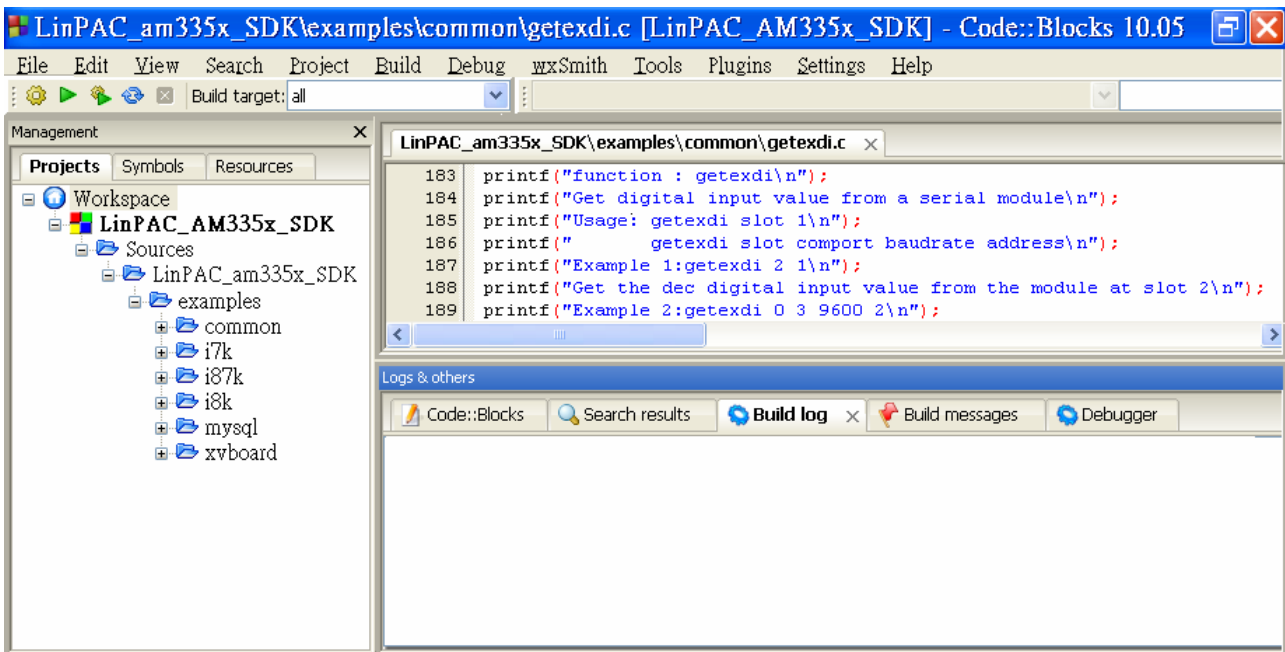

Fig. 2-19
- ❑ Following window will come up (refer to Fig. 2-19):